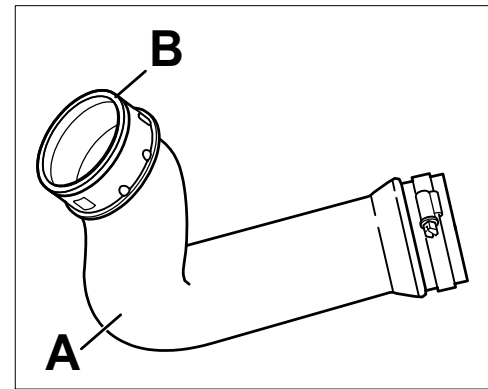

Figure 3
- 8 Check pressure hose (⇒ *Figure 3 -Item A-*) for signs of damage.
- If the pressure hose shows **no** signs of damage, replace the round seal (⇒ *Figure 3 -Item B-*) on the pressure hose, Part No. 955.110.721.00.